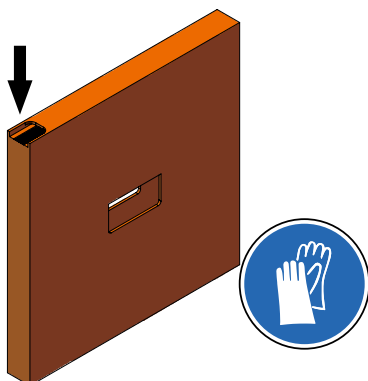

Figure 20: APS code tape box: Open here
1. Open the APS code tape box at the latch → Figure 20